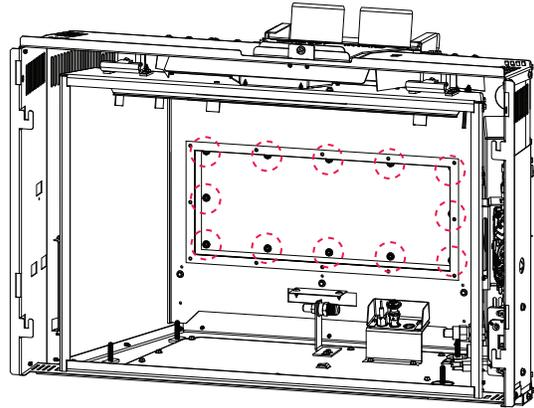

Fig. 7-5
- E. Remove the second access panel by removing the 12 screws (**Fig. 7-5**).